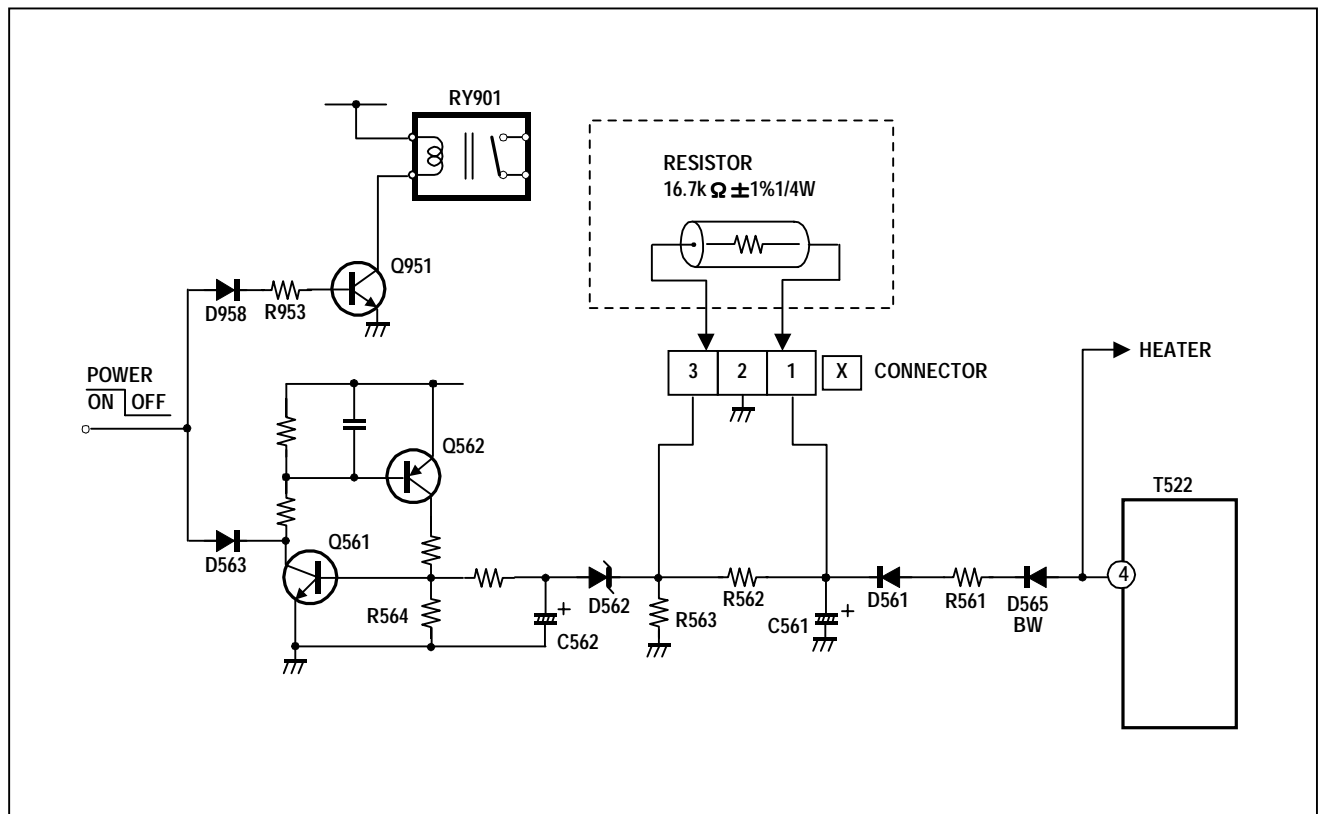

Fig. 1
- (1) Turn the POWER SW ON.
- (2) As shown in Fig. 1, set the resistor (between ☐ X connector ☐ 1 & ☐ 3).
- (3) Make sure that the screen picture disappears.
- (4) Temporarily unplug the power cord.
- (5) Remove the resistor (between ☐ X connector ☐ 1 & ☐ 3).
- (6) Again plug the power cord, make sure that the normal picture is displayed on the screen.